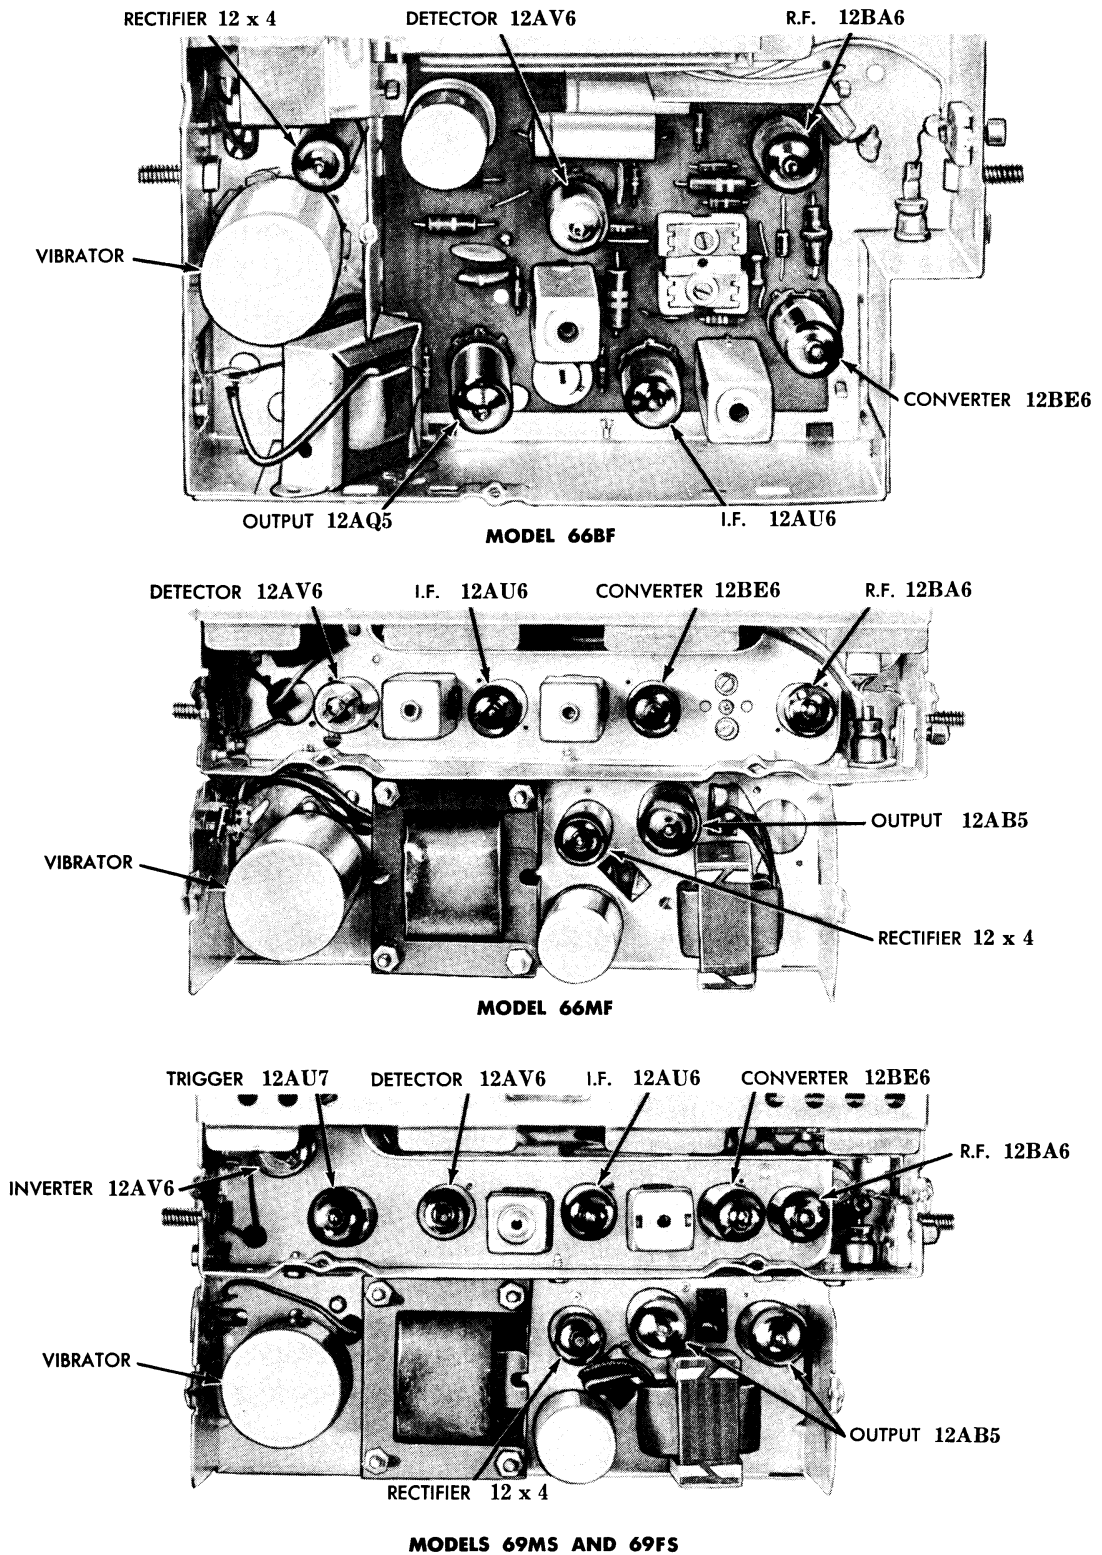

Fig. 7—Tube Arrangements
(5) **ACCESSIBILITY.** All receiver models can be tested (minor repair tests) and the tubes or vibrator changed while the receiver is mounted in the vehicle. Removal of the bottom covers permits access to all tubes and vibrator as shown in fig. 7.
(1) **ANTENNA TRIMMER.** Extend the antenna to its maximum length. Tune in the weakest station between 12 and 16 on the dial and reduce the volume until the station is barely audible. Turn the antenna trimmer knob, fig. 7, slowly in either direction until a peak of volume is reached.